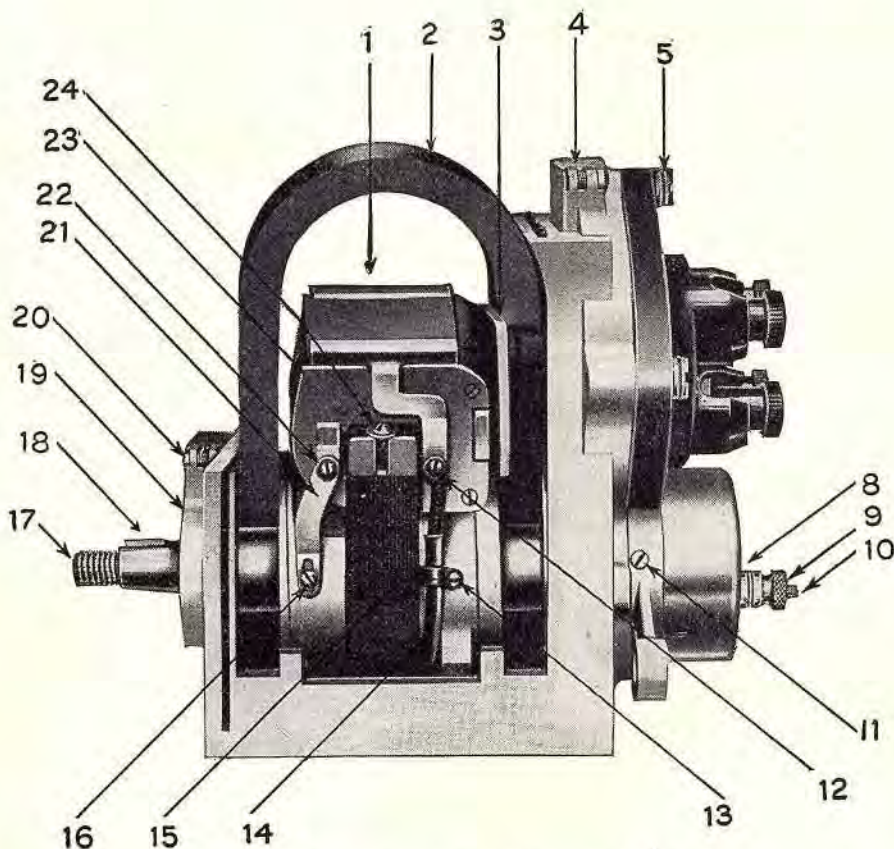

Fig. 26. Side view of parts of Dixie Magneto (4-cylinder).
Note. The contact breaker box is permanently attached to the pole structure or part (Fig. 30), which carries the coil and condenser. When moving the breaker to retard or advance, all the parts (Fig. 26) 1, 3, 24, 22, 21, 16, 15, 14, 13, 12 move with it (also shown in Fig. 15, page 274).
Fig. 35. Rear view of magneto. Note that by taking out four screws, the winding coil (23) and condenser (1) (Fig. 26) can be removed. The magnets (2) (Fig. 26) are exposed and removed when taking off the cover.